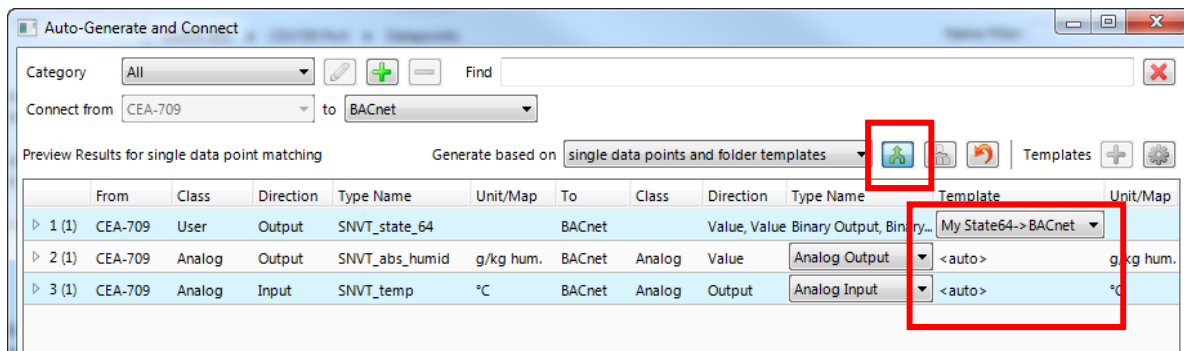

Figure 56: Auto-generate and connect with auto-generate template.
8. Select an auto-generate template in the drop-down box of the **Template** column as shown in Figure 56.